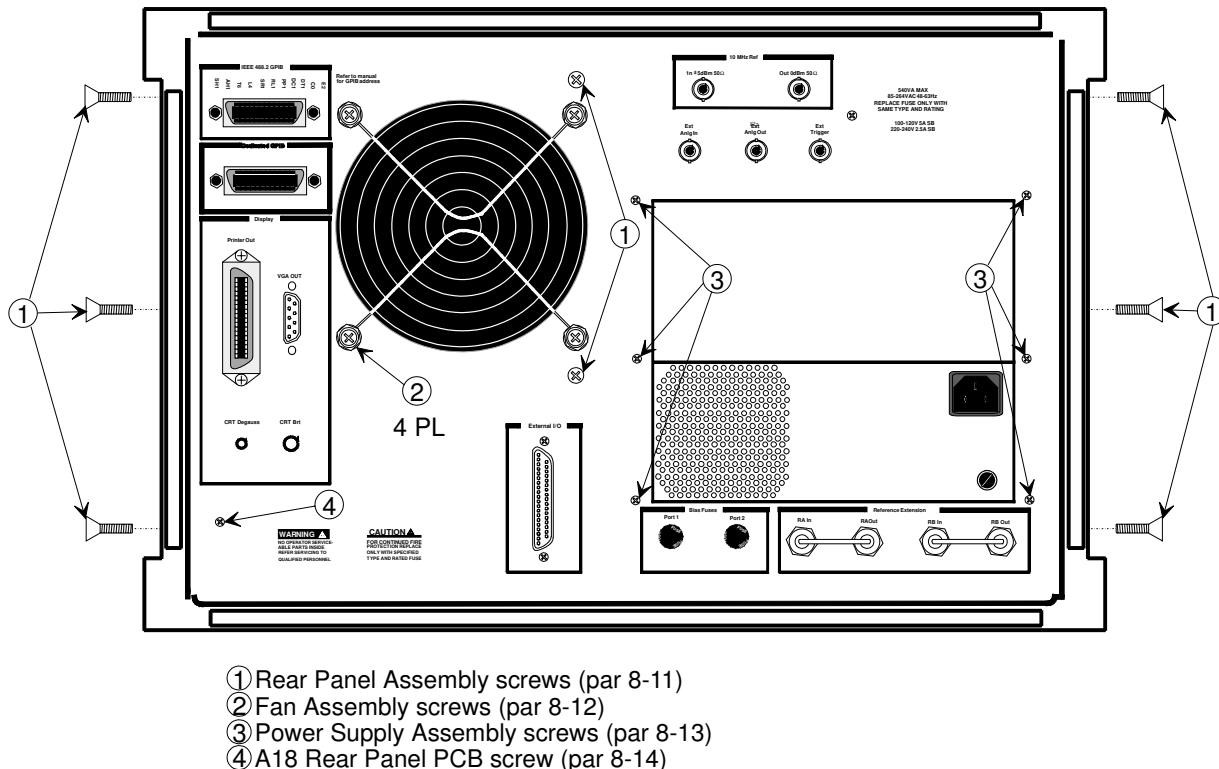

Figure 8-10. Location of Mounting Screws for Rear Panel Assemblies
- Step 2. Remove the three screws on each side of the chassis that fasten to the rear panel assembly. See Figure 8-10.
- Step 3. Remove the two screws located near top and middle of rear panel (near fan-mounting screws). See Figure 8-10.
- Step 3. Turn Rear Panel Assembly over, and remove the four screws that fasten the fan guard and fan assembly to the rear panel. See Figure 8-10.
Step 2. Remove the six screws from the rear panel that fasten it to the left and right edges of the Power Supply Module (see Figure 8-10). Gently separate the two units.
- Step 4. Turn Rear Panel Assembly over. Remove screw located at lower left corner of the rear panel that fastens the A18 PCB to the Rear Panel Assembly (see Figure 8-10).